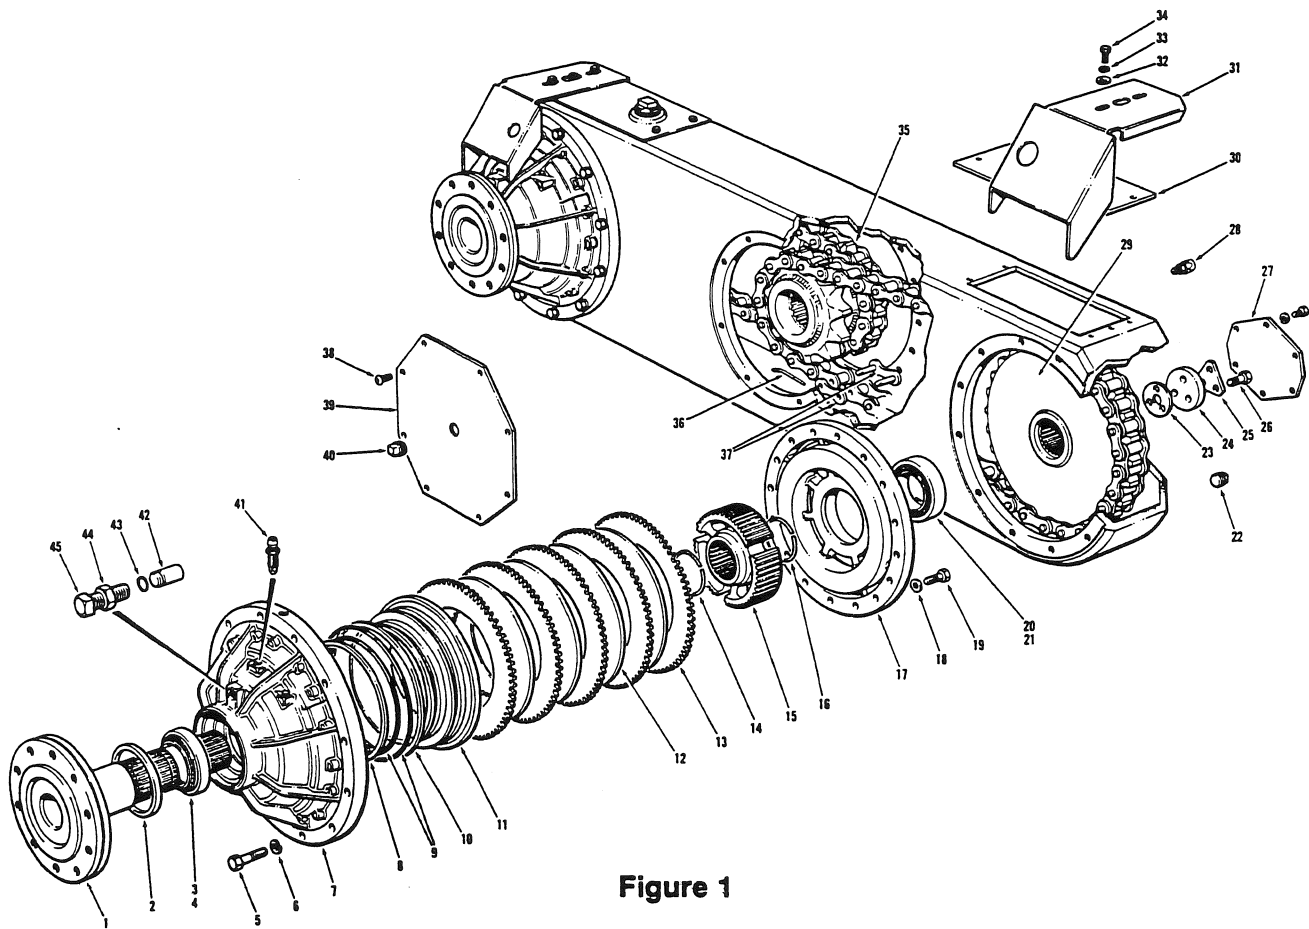

Figure 1
NOTE: *Ensure that you install the O-ring and the back-up ring (30) in the correct position. Refer to Figs. 1 and 39 for positioning.*
NOTE: *Ensure that you install the O-rings and the back-up rings (35 and 37) in the correct position. Refer to Figs. 1 and 40 for positioning.*
KEY TO FIGURE 1
Remove the capscrews (34), lockwashers (33), and flat washers (32) securing the cover plates (30) and brake line shields (31). Remove the cover plates and brake line shields. (Ref. Fig. 1).